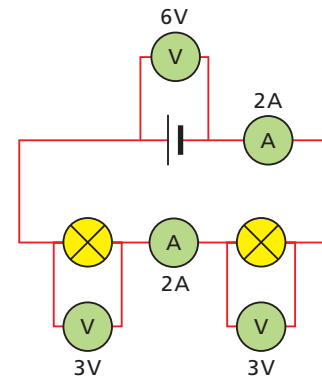

FIGURE 2.6.17a: A series circuit
Figures 2.6.17a and 2.6.17b show a series circuit and a parallel circuit with light bulbs of the same resistance.
1. If another light bulb is added to the series circuit in Figure 2.6.17a, what will happen to the voltage across the other light bulbs? Explain your answer.
The circuits in Figures 2.6.17a and 2.6.17b can be modelled using the rope model you used in Topic 6.15.